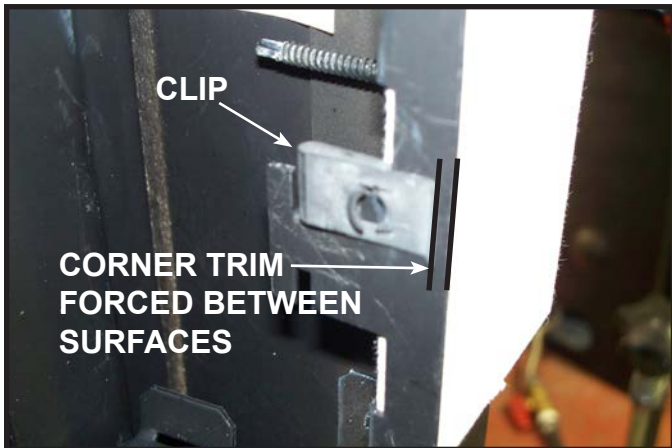

Figure 15. Clips Located on Four Corners - Bottom Right Shown
9. Install four retainer clips (included) as shown in Figure 15. Outside corner trim piece will be forced into clip on front of fireplace. See Figure 16 and Figure 17.